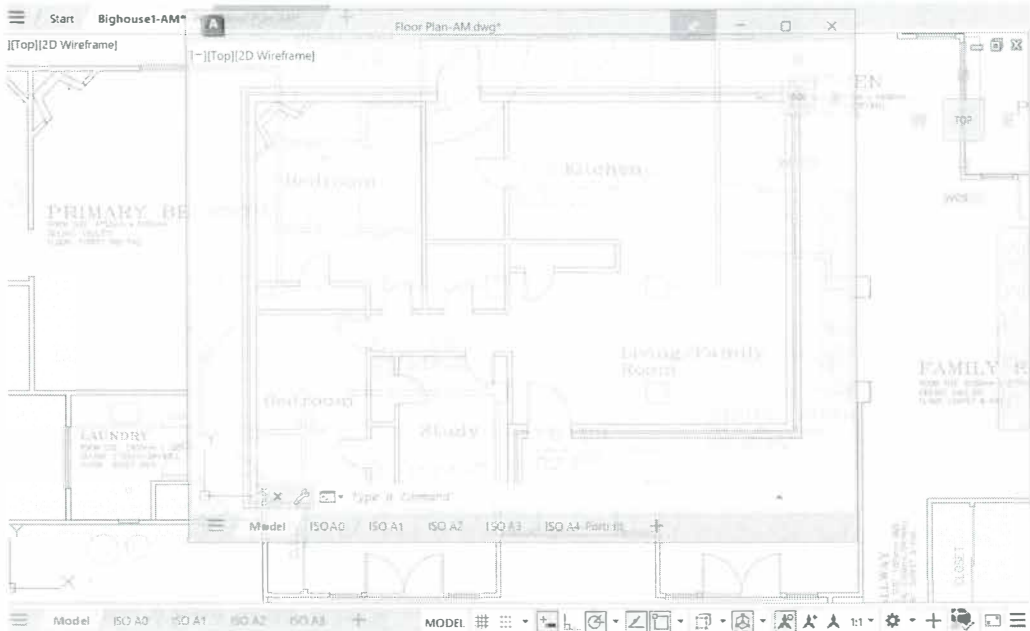

Figure 1–50
13. Click, hold, and drag the **Floor Plan-AM.dwg** drawing window back on the *File Tabs* bar, as shown in Figure 1–50.